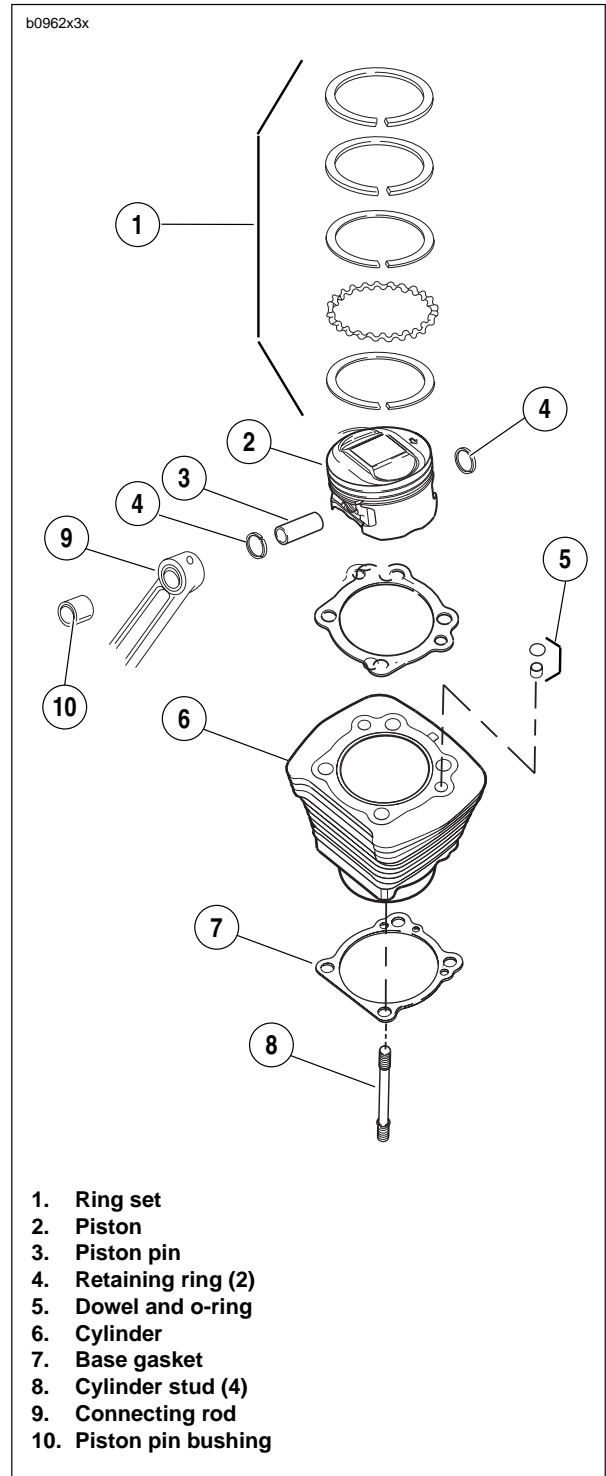

Figure 3-85. Cylinder and Piston
4. See Figure 3-85. Turn engine over until piston of cylinder being removed is at bottom of its stroke.